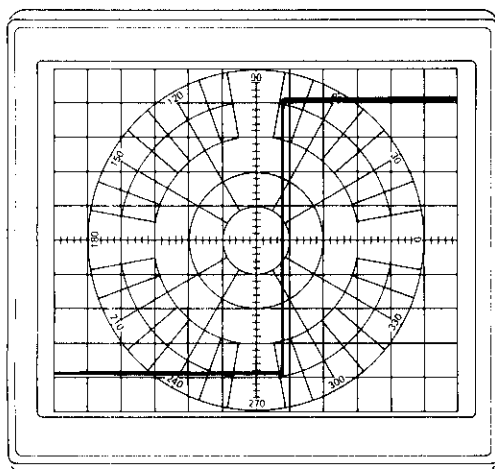

Figure A4-15. CRT Trace of Phase Transition
- c. Offset the phase trace with the Channel 1 REF OFFSET pushbuttons to place a phase transition to the right of midscreen as shown in Figure A4-15.